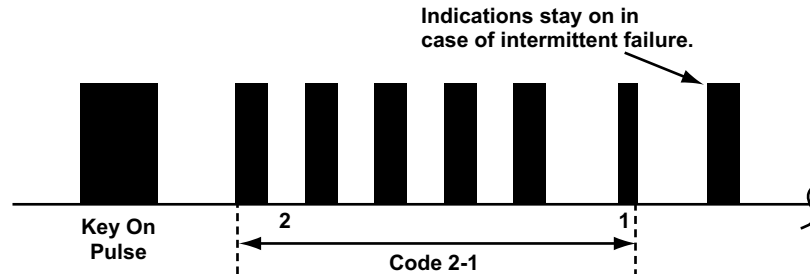

Figure 8-23 Honda ABS Code Type 06 - Intermittent Failure, SRS indicator blinks like this
- Type 06 with an intermittent failure, see Figure 8-23 and Table 8-14 on page 69